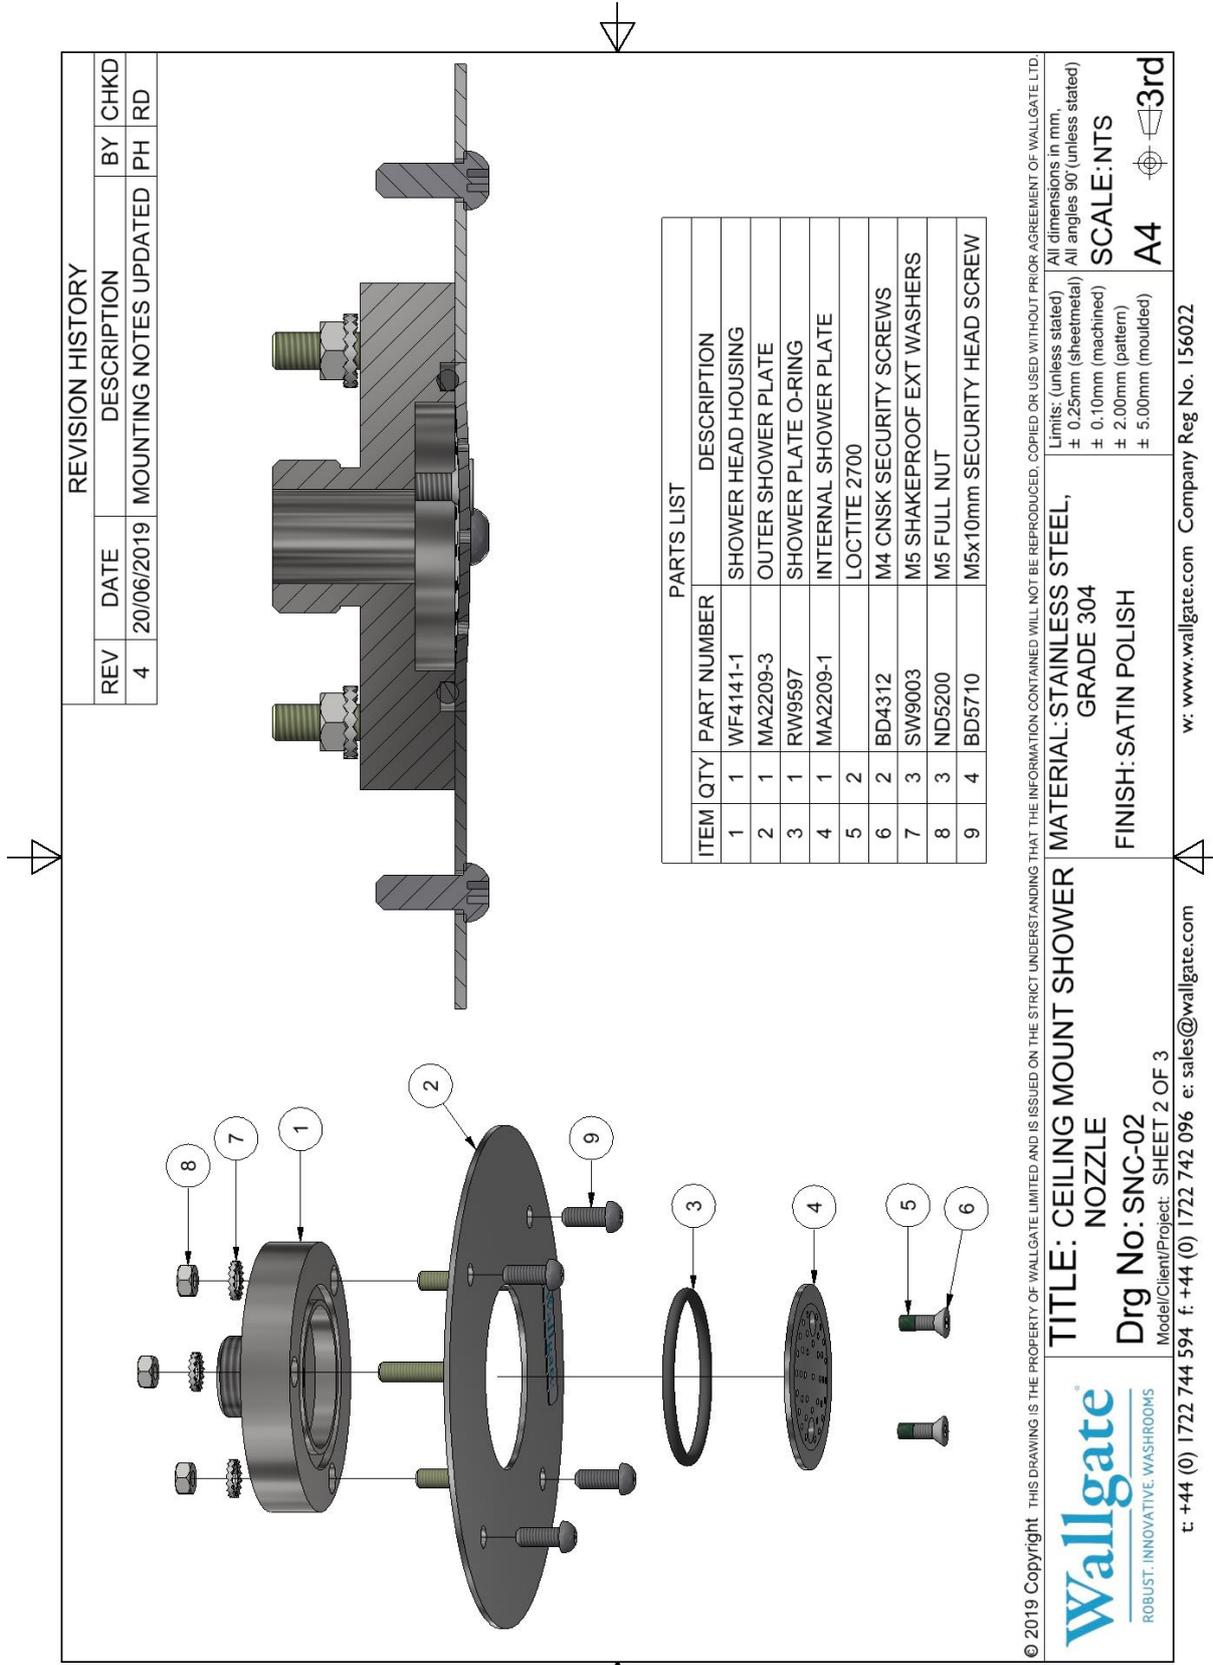

Figure 2: Ceiling mount shower head exploded view.
5. Fit the 4 x M5 screws (Item 3, Fig: 2) through shower plate into ceiling mounting box. Tighten each screw to a torque of 3.5Nm, a thread lock can be applied (Loctite 222).
2. Fit the 4 x M5 screws (Item 3, Fig: 2) through shower plate into ceiling mounting box. Tighten each screw to a torque of 3.5Nm, a thread lock can be applied (Loctite 222).
For ease of cleaning, the spray plate can be removed from the external plate. The assembly is shown in figure 2.